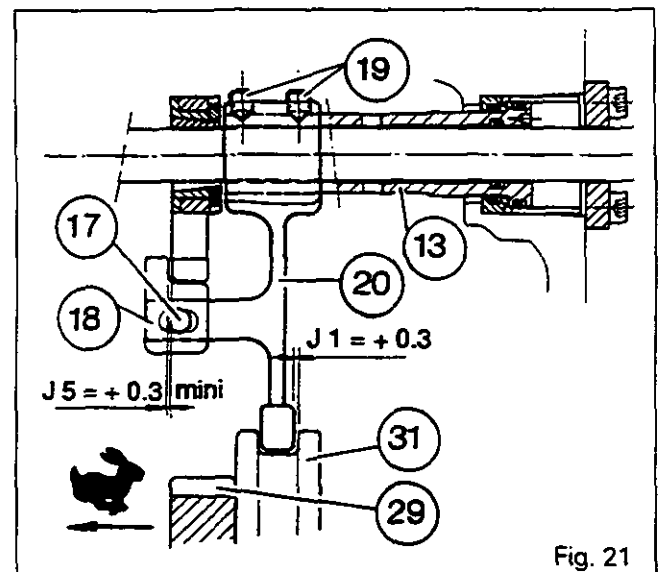

Fig. 21
90. Position the control piston (13) and the slide rod (31) on the high range (Hare).
91. Keep the slide rod resting against the high range gear (29) (Fig. 21).
92. Adjust the position of the fork (20) by acting on the two adjusting screws (19), after cleaning them with a solvent and applying a light coating of Loctite 221, so as to obtain a play of $J1 = 0.3$ mm between the rear face of the pad and the slide rod (Figures 21 and 22).
101. Balance the plays, **J5** and **J6** (min. = 0.3 mm), between the slider and the latch in the Hare and Tortoise positions (Figures 21, 23, 27 and 28).